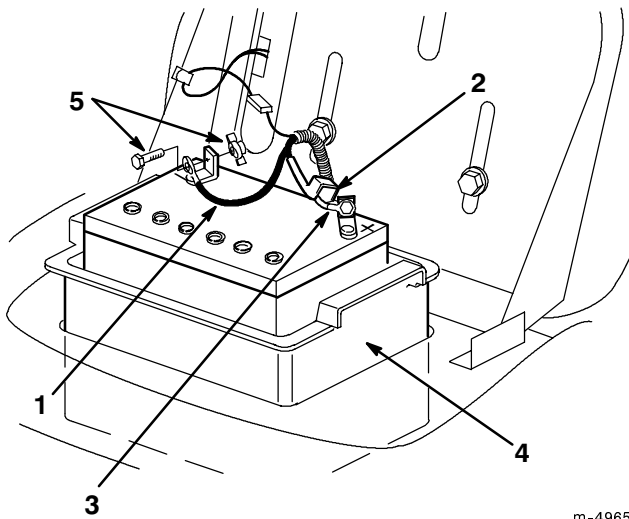

Figure 19
3. Disconnect the negative (black) ground cable from the battery post (Fig. 19).
4. Slide the rubber cover up the positive (red) cable. Disconnect the positive (red) cable from the battery post (Fig. 19).
5. Remove the battery box and battery from the chassis (Fig. 19).
1. Put the battery into the battery box and install into the chassis (Fig. 19).
2. Using the bolt and wing nut, connect the positive (red) cable to the positive (+) battery post (Fig. 19). Slide the rubber cover over the battery post.
3. Using the bolt and wing nut, connect the negative (black) cable to the negative (-) battery post (Fig. 19).